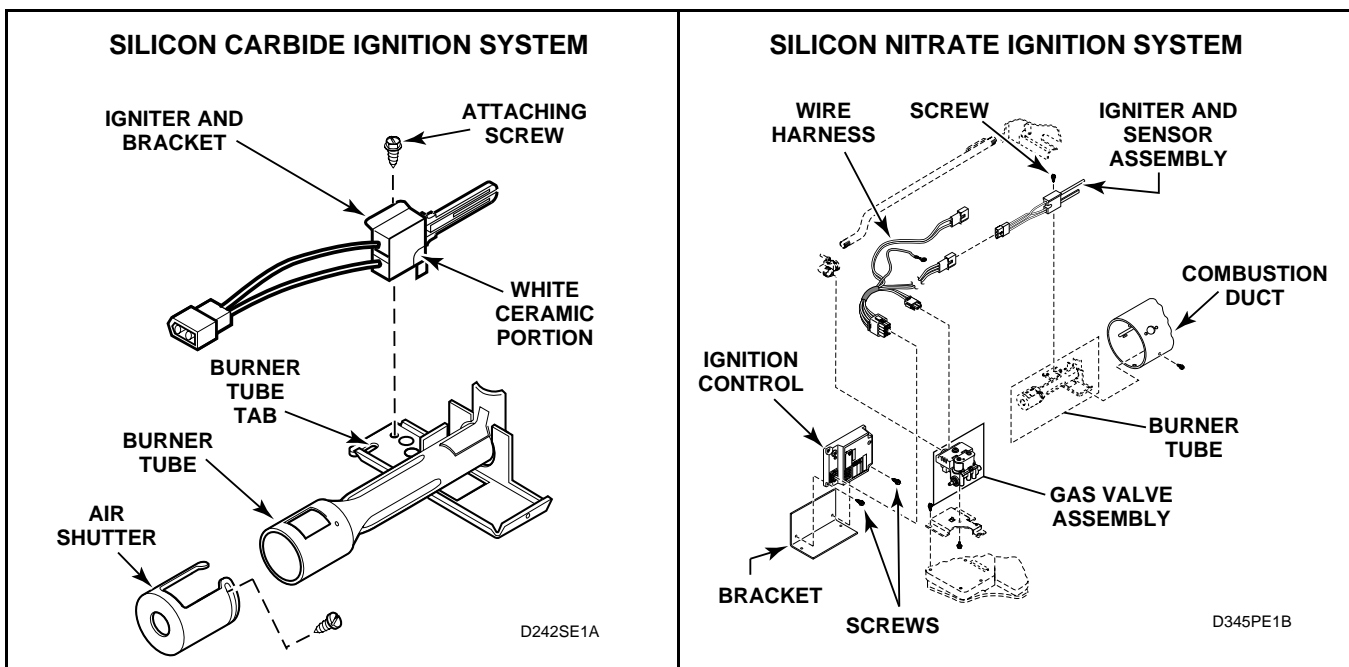

Figure 16
- (5.) Remove screw holding igniter and bracket to burner tube and remove igniter and bracket. See *Figure 16*.
- (4.) Remove screws holding ignition control to bracket. See *Figure 16*.
- (5.) Carefully remove ignition control. See *Figure 16*.
- (4.) Remove screw holding igniter and sensor assembly to burner tube. See *Figure 16*.